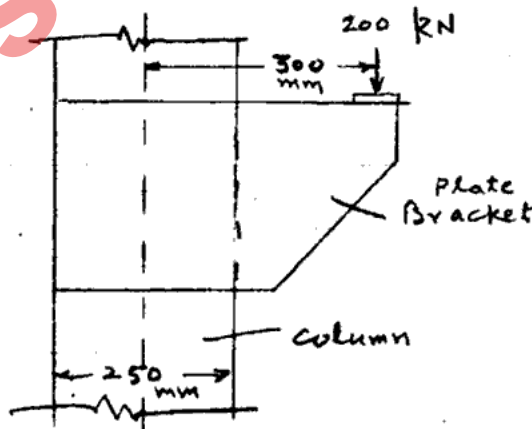

Fig 1
- (b) A 10 mm thick bracket is bolted to the flange of a column ISHB 300 @ 577 N/m , as shown in Fig 1. The factored load 200 kN is eccentric by 300 mm . Using M20 bolts of grade 4.6, design the connection.